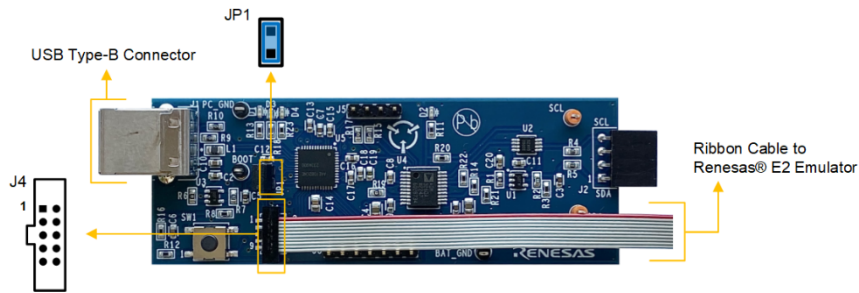

Figure 4. Communications Dongle with Attached Renesas E2 Emulator
2. Connect Renesas E2 Emulator/ E2 Emulator Lite to the JTAG connector J4 of the dongle board (Figure 4).